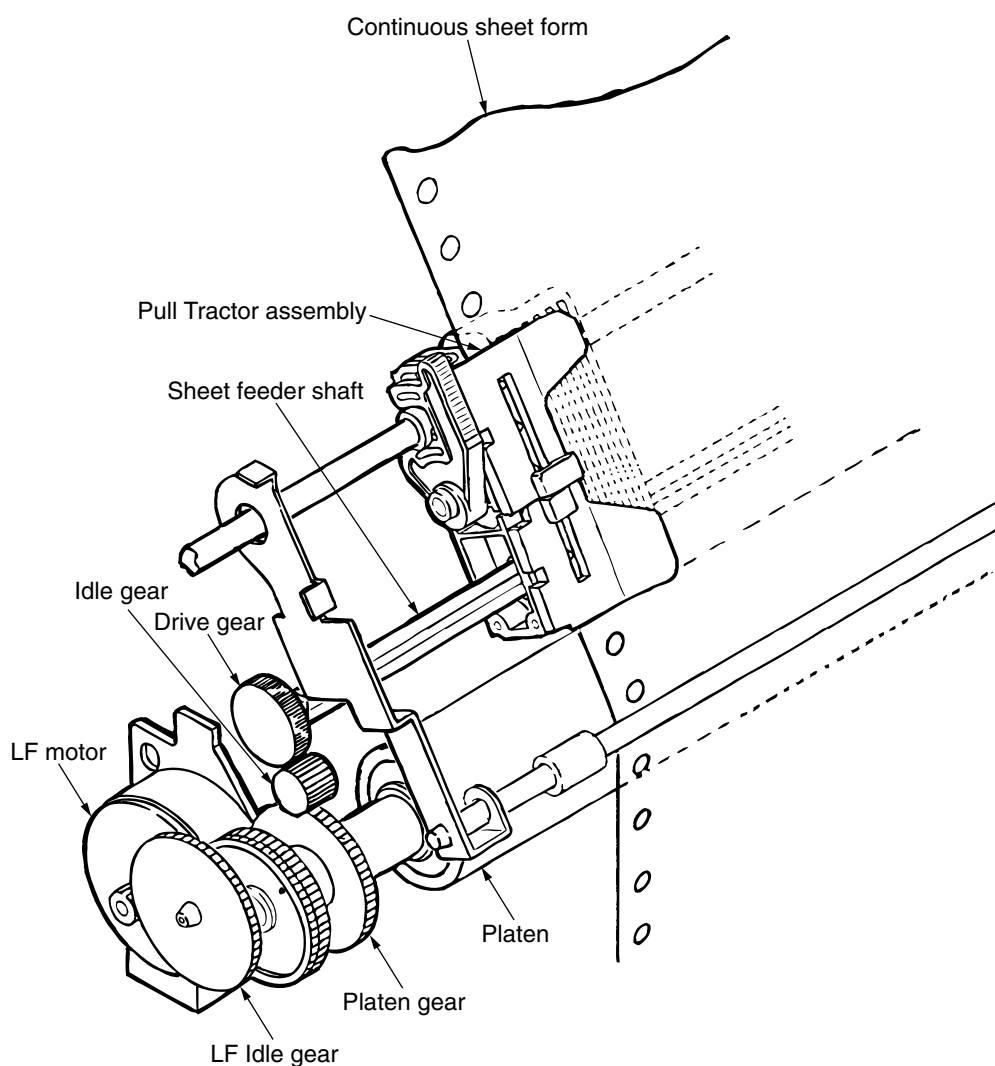

Figure 2-11
(5) Pull tractor mechanism (option) (See Figure 2-11.)